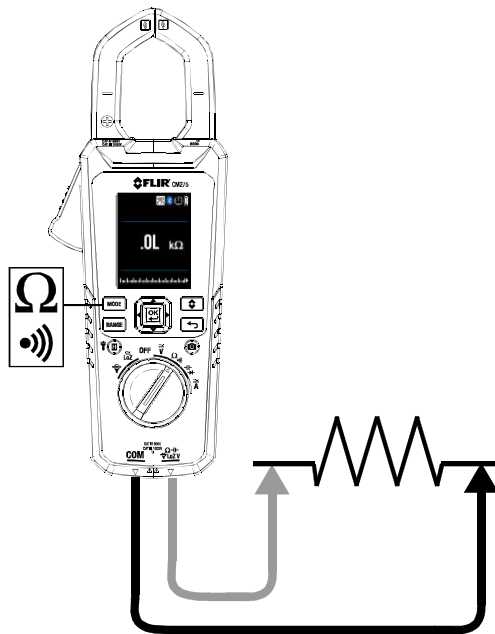

Fig. 9-5 Resistance and Continuity Measurements
1. Refer to **Fig. 9-5**. Set the function switch to the Ω position.